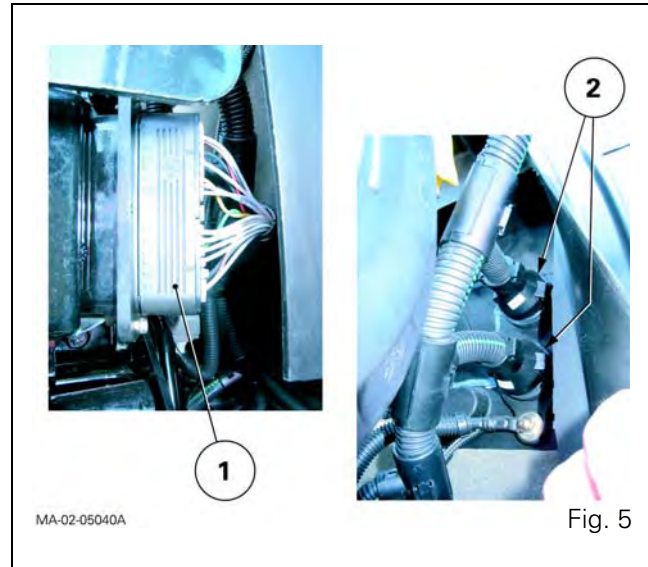

Fig. 5
14. If necessary disconnect the connector (1) of the main wiring harness (Fig. 5).
16. Disconnect the connectors (2) on the left-hand face of the fire wall (Fig. 5).
- Screw (2) of connector (1) on main wiring harness (Fig. 5 and Fig. 12) 2.82 to 3.15 Nm